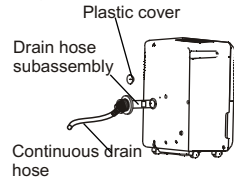

Fig. 13
- Remove the continuous drain hose and the drain hose subassembly from the unit. Install the plastic cover to the continuous drain hose outlet of the unit by using two screws. (See Fig. 13)